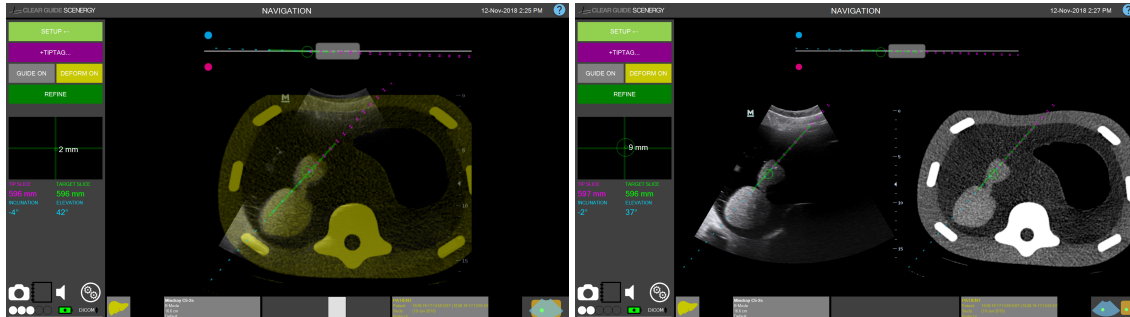

Figure 31: NAVIGATION Mode: Fusion (left) and Side-by-Side (right) views
After registration, press **NAVIGATION** to continue to NAVIGATION mode (Figure 31). To return to SETUP mode later, press **SETUP** again.
The **Main View** of the display is the primary, in-plane (lateral/axial) 2D imaging view (Figure 31).
- **Fusion / Side-by-Side toggle** to select different viewing modes (Figure 31) – fused ultrasound and 3D volume overlay, or side-by-side separate modality views. All instrument and target overlays are available on all views. Without registration of a 3D volume, only ultrasound will be shown.